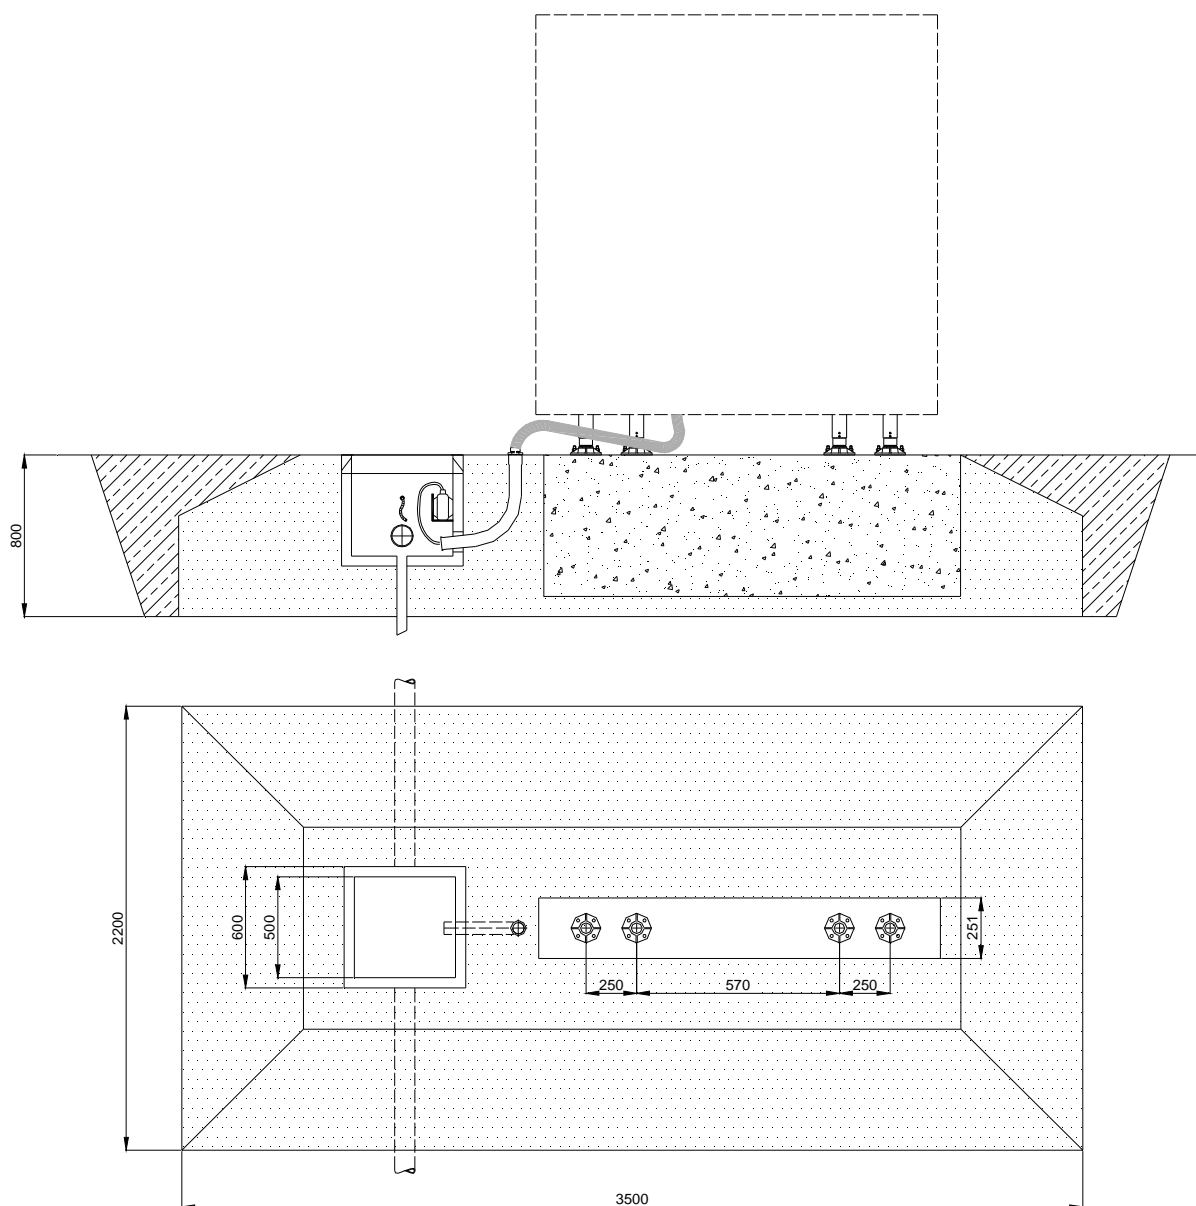

Figure 4 – Concrete foundation
- d) The concrete foundation for the sign should be flat and levelled. Refer to Figure 4 for relevant data. The isolating transformer must be placed inside a concrete pit complete with pipe elbow for the secondary cable passage or inside a steel base complete with upper plate with G 2" threaded coupling for the plug-socket connection.